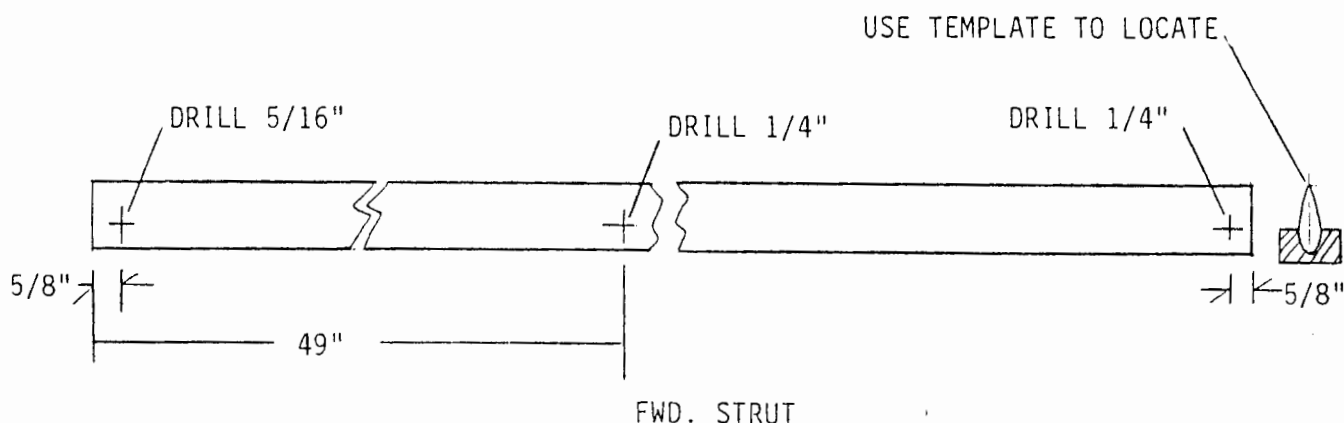
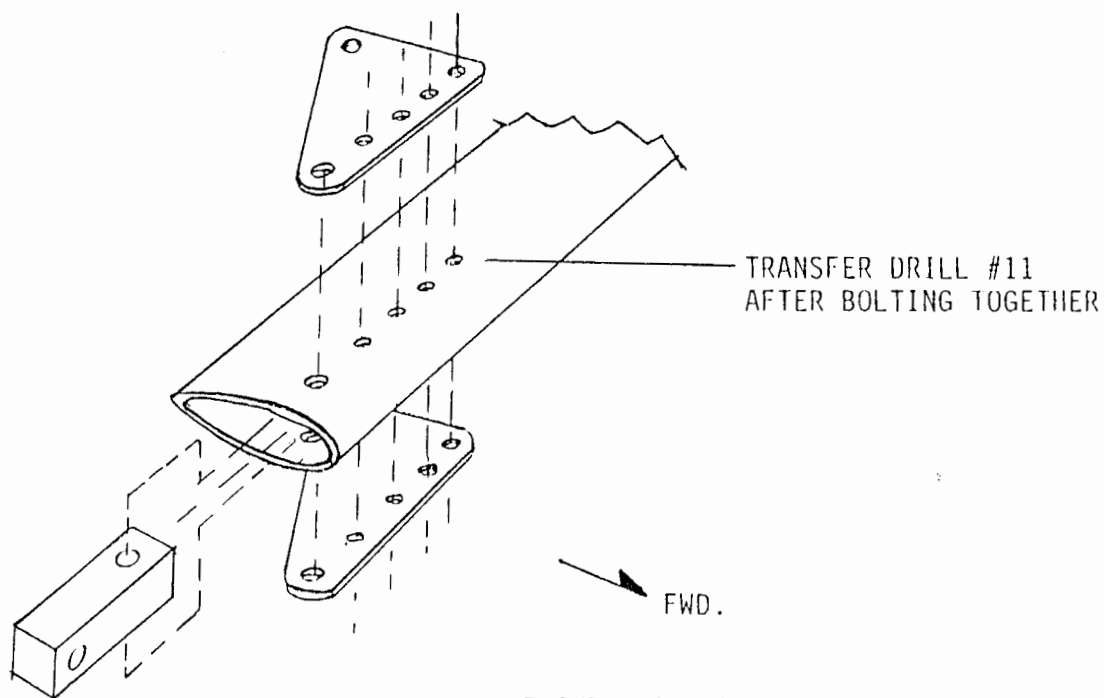

FIGURE 026-03
FIGURE 026-03A
3. Take two of the 97 1/8" lengths of strut material and locate and drill a 5/16" hole 5/8" in from one end and a 1/4" hole 5/8" from the other. Drill a 1/4" hole for the jury strut 49" from the 5/16" hole end. Use the template to locate and drill from each side. See Figure 026-03. Assemble the fittings to each end as per the parts drawing. NOTE: Drill out the fitting 5/16" as required. Bolt the struts to the wings and fuselage. Assemble the strut as shown in Figure 026-03A.